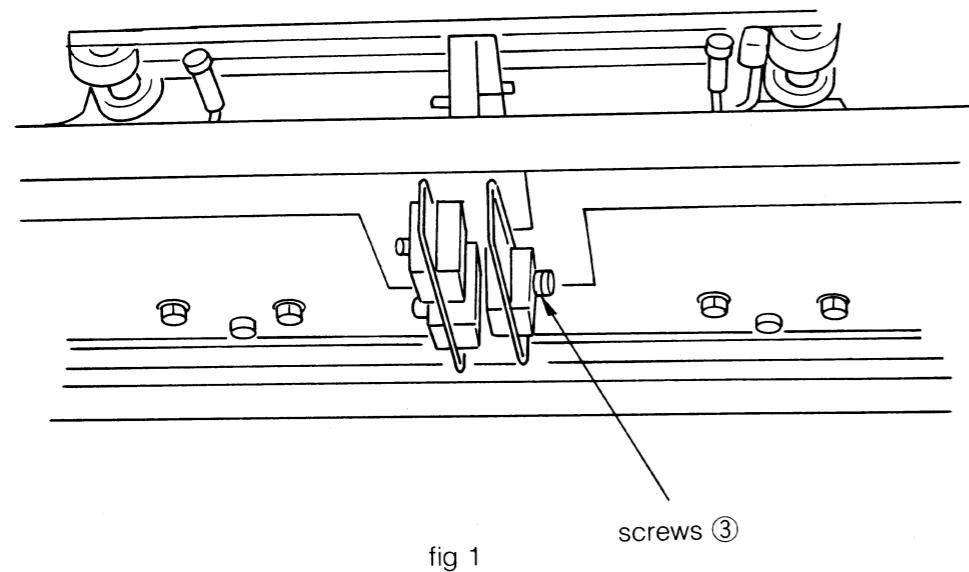

fig 1
- 6 If not, perform steps 5 and 6 again. (cf.fig 1)
- 7 If the plate is folded to the specified length, tighten screw ③ of the stopper. (cf.fig 1)
- 1 Remove screws ① and ② securing the cover, and remove the cover. (cf.fig 1)